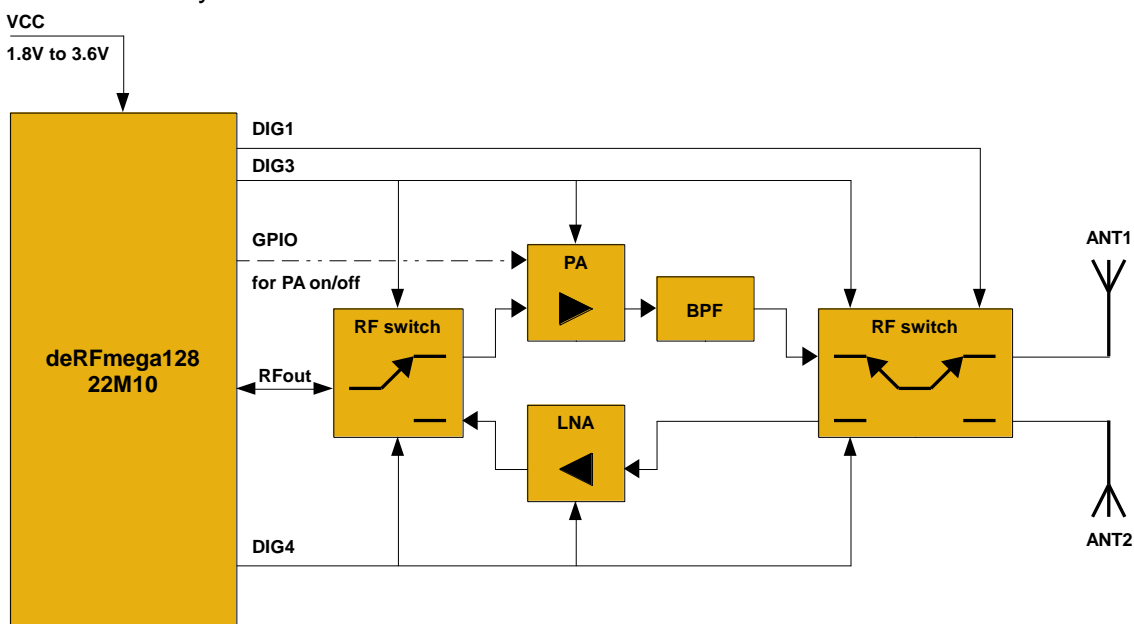

Figure 60: block diagram for external PA/LNA and antenna diversity control
The radio module deRFmega128-22M10 and deRFmega256-23M10 can be connected with an external front end including power amplifier (PA) for transmission and low noise block (LNA) for receiving. **Figure 60** shows a possible design as block diagram. A custom design can contain a single PA or single LNA or a complete integrated front-end chip. It depends mainly on the application. Furthermore, it is possible to include a RF switch for driving the antenna diversity feature.